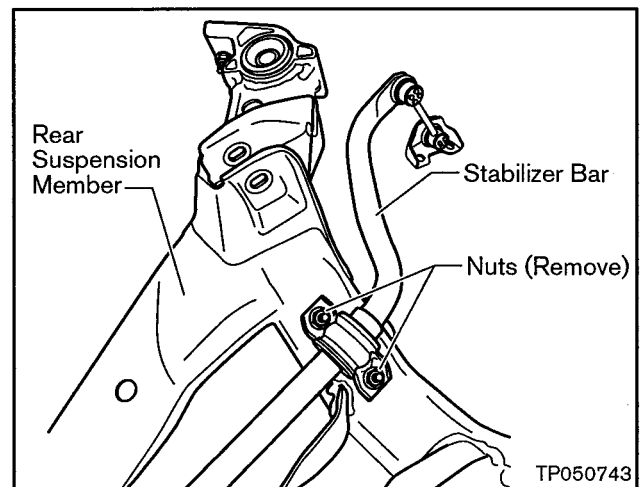

Figure B5
4. Turn the suspension member over and remove the stabilizer bar from the suspension member (see Figure B5).